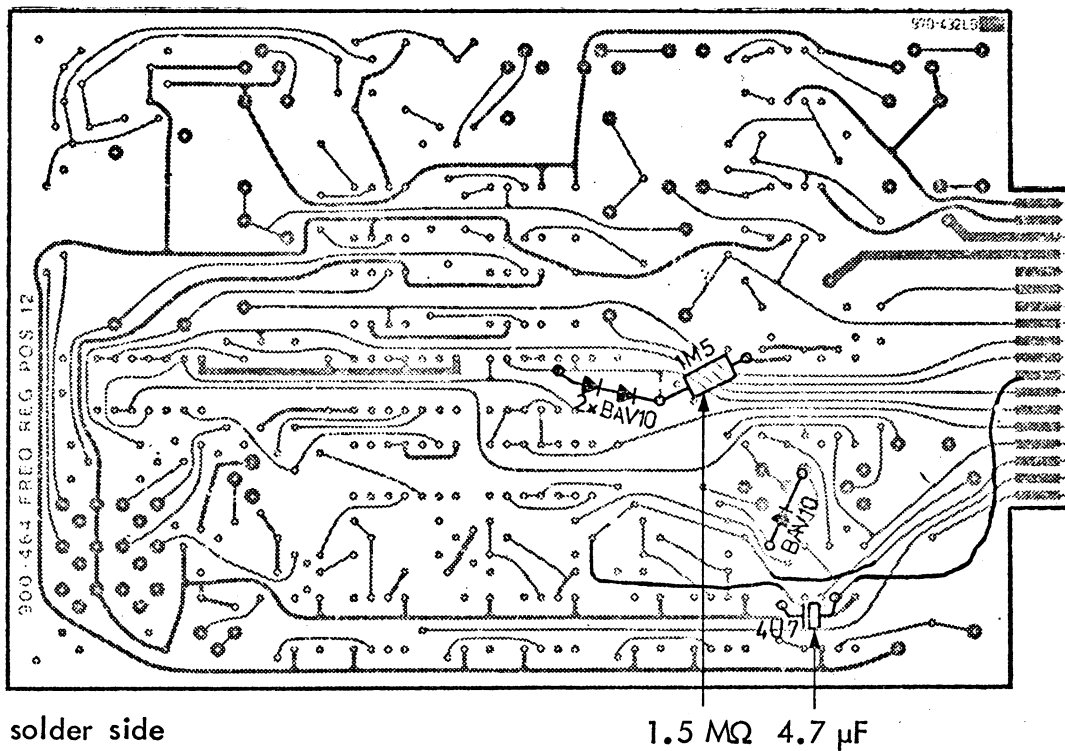

Fig. 4.
4. Place the 3 diodes, the 1.5 M $\Omega$  resistor and the 4.7  $\mu$ F capacitor as shown in Fig. 4.